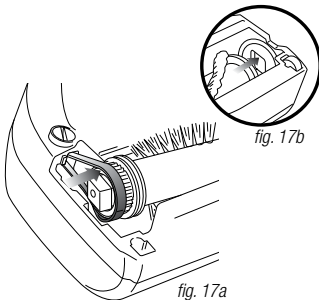

fig. 17b
- To reinsert the brush roll, first slip the black belt onto the white gear (fig. 17a), then align the white square on the opposite side of the brush roll into the square slot. (fig. 17b)